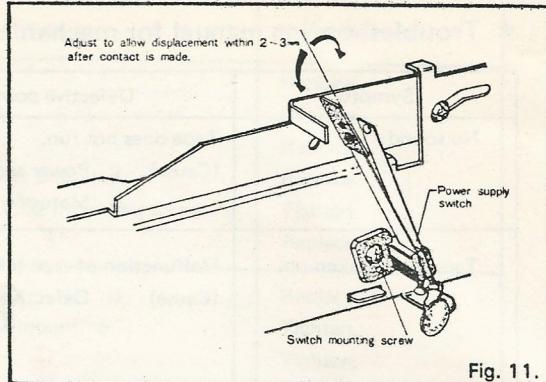

Fig. 11.
* Adjustment of the power switch (Refer to Fig. 11)